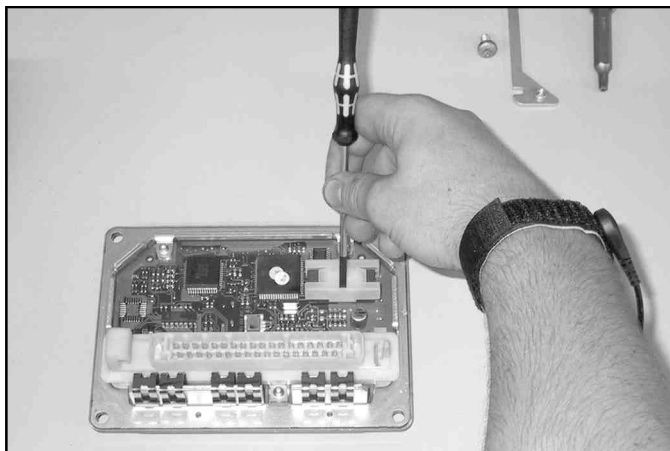

Figure 11
13. Remove the white plastic retainer from the engine management EPROM. **Figure 11.**